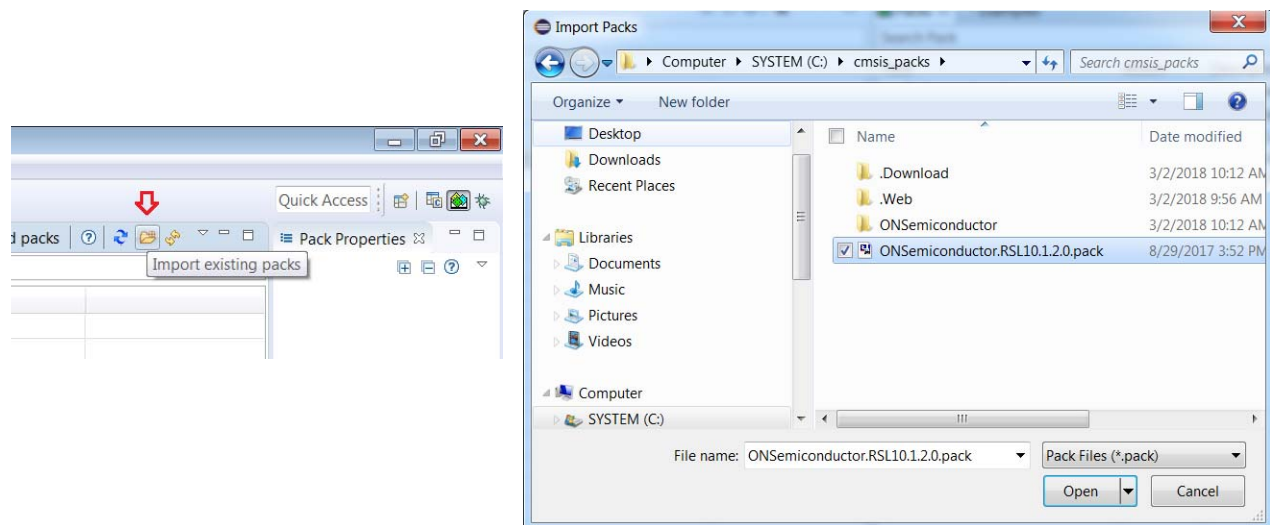

Figure 4. Installing the RSL10 CMSIS-Pack
4. Click on the **Import existing packs** icon, select your pack file *ONSemiconductor.RSL10.version.pack*, where **version** is a number such as 2.3.27, and click **Open** (see Figure 4).